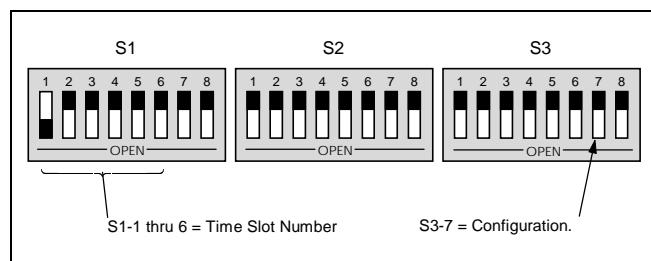

Figure 5 - DIP Switches S1 thru S3
1. Set the Digital Receiver's DIP switches to the following positions, refer to Figure 5:
Use the following procedure to configure the Voter Selector, refer to Figure 5: